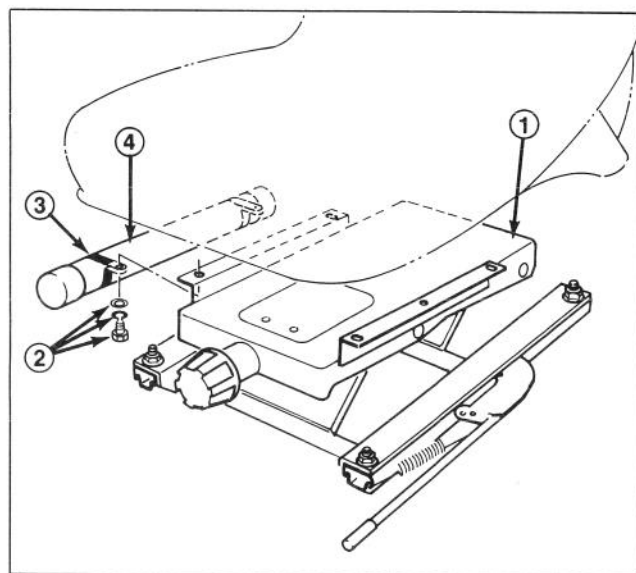

Figure 5
11. Mount seat mounting plate over four threaded studs at the bottom of seat suspension assembly and secure in place with lockwashers and nuts (Fig. 5).
(Fig. 5). Install manual tube into R-clamps, insert manual into tube and place cap over tube end (Fig. 5).
13. Mount seat support over four threaded studs at the bottom of seat suspension assembly and secure in place with lockwashers and nuts (Fig. 5).